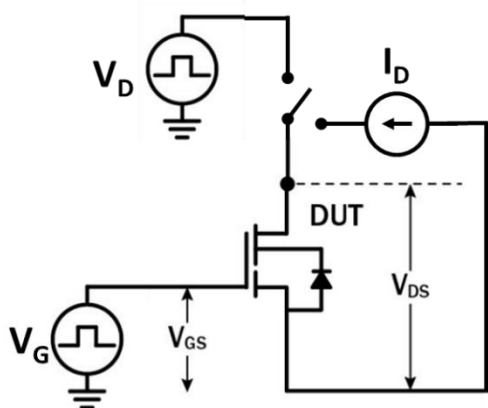

Figure 18. Dynamic  $R_{DS(ON)eff}$  Test Circuit
- a. Dynamic  $R_{DS(on)}$  value; see Figures 18 and 19 for conditions